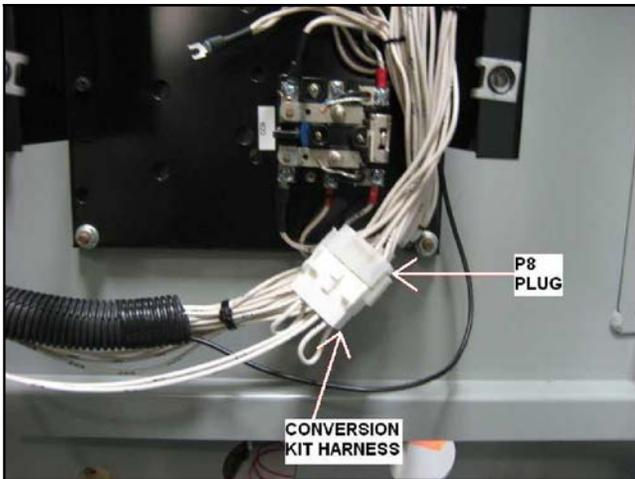

Figure 43 Connect Conversion Kit Wire Harness Connector P8 to Plug P8
37. Connect the conversion kit wire harness GM77827 connector P8 to plug P8 that was disconnected from the upper board in the previous step. See Figure 43.